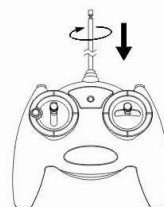

Fig2
- 1.insert the antenna end into remote antenna hole,then tighten the clockwise direction. (Figure 2)